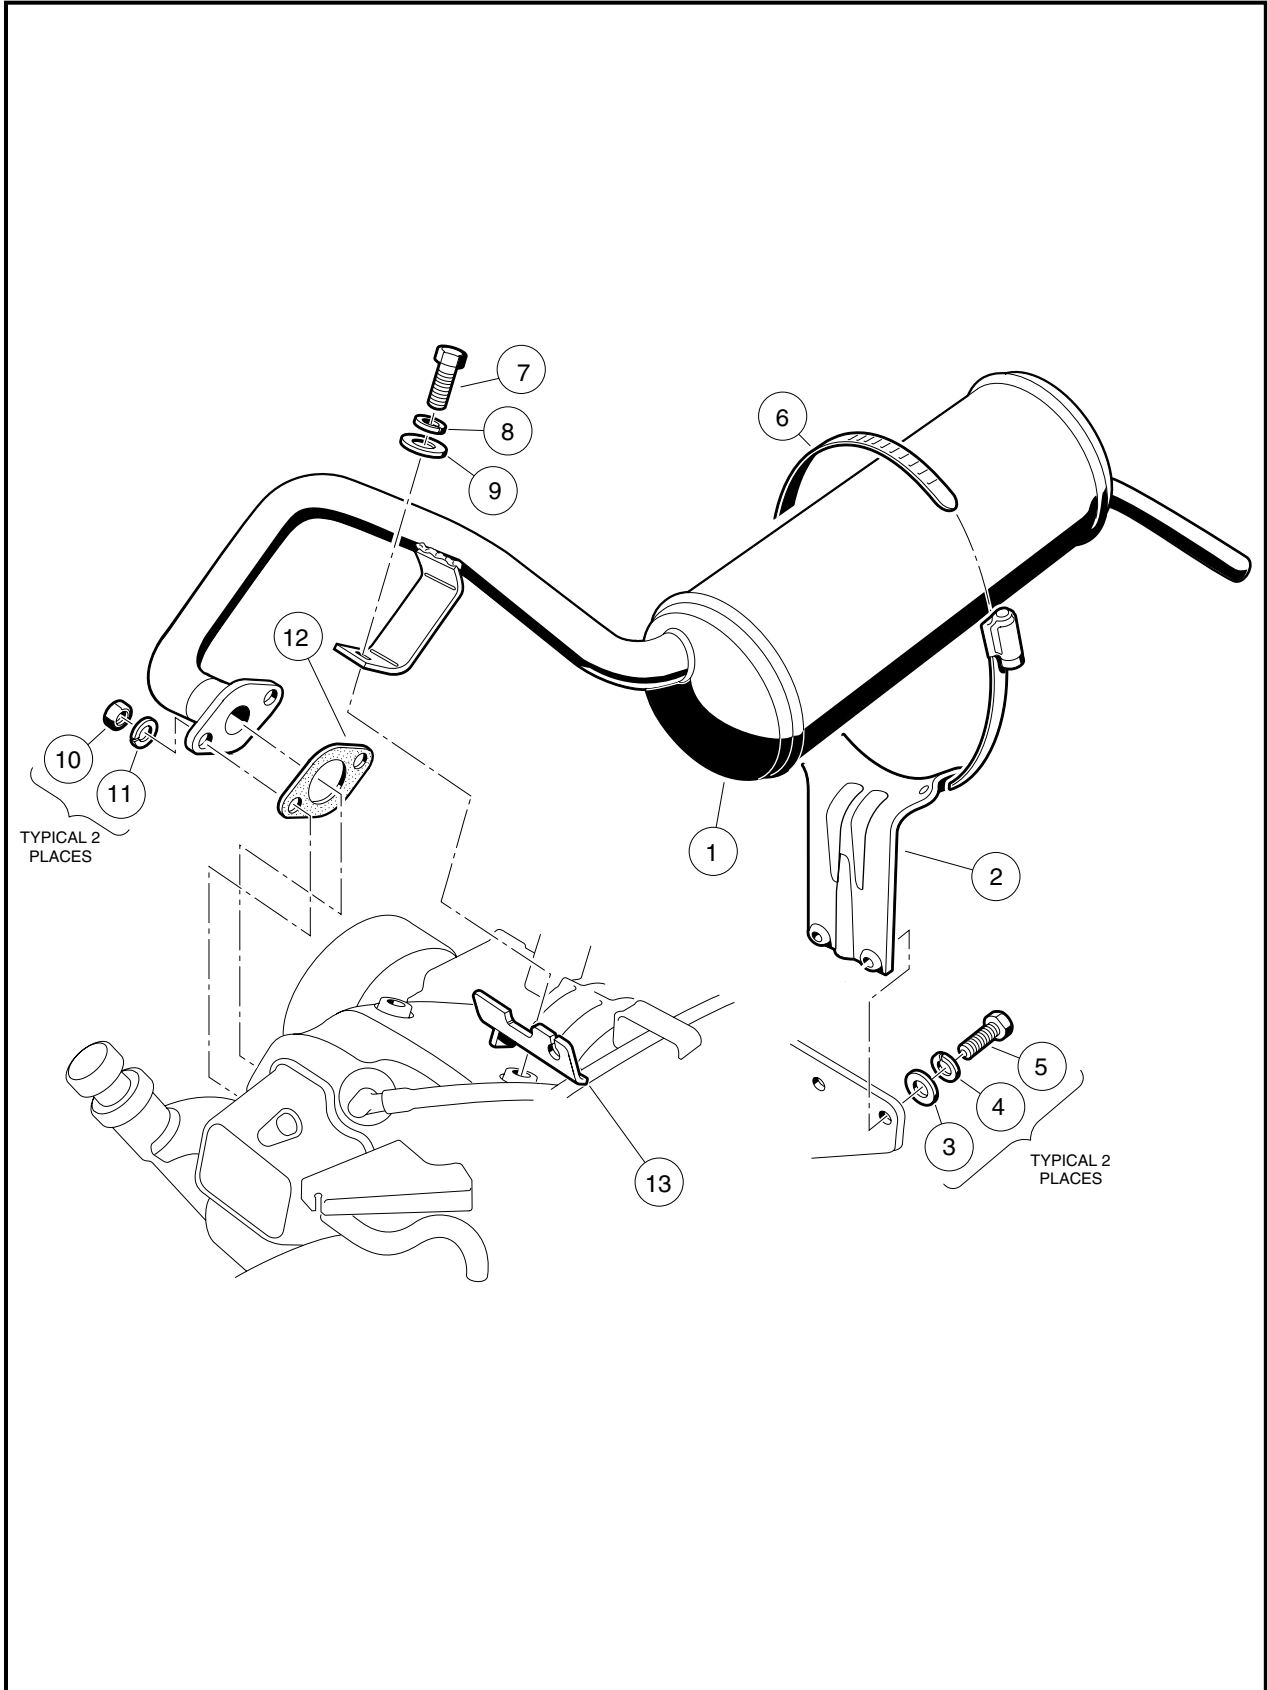
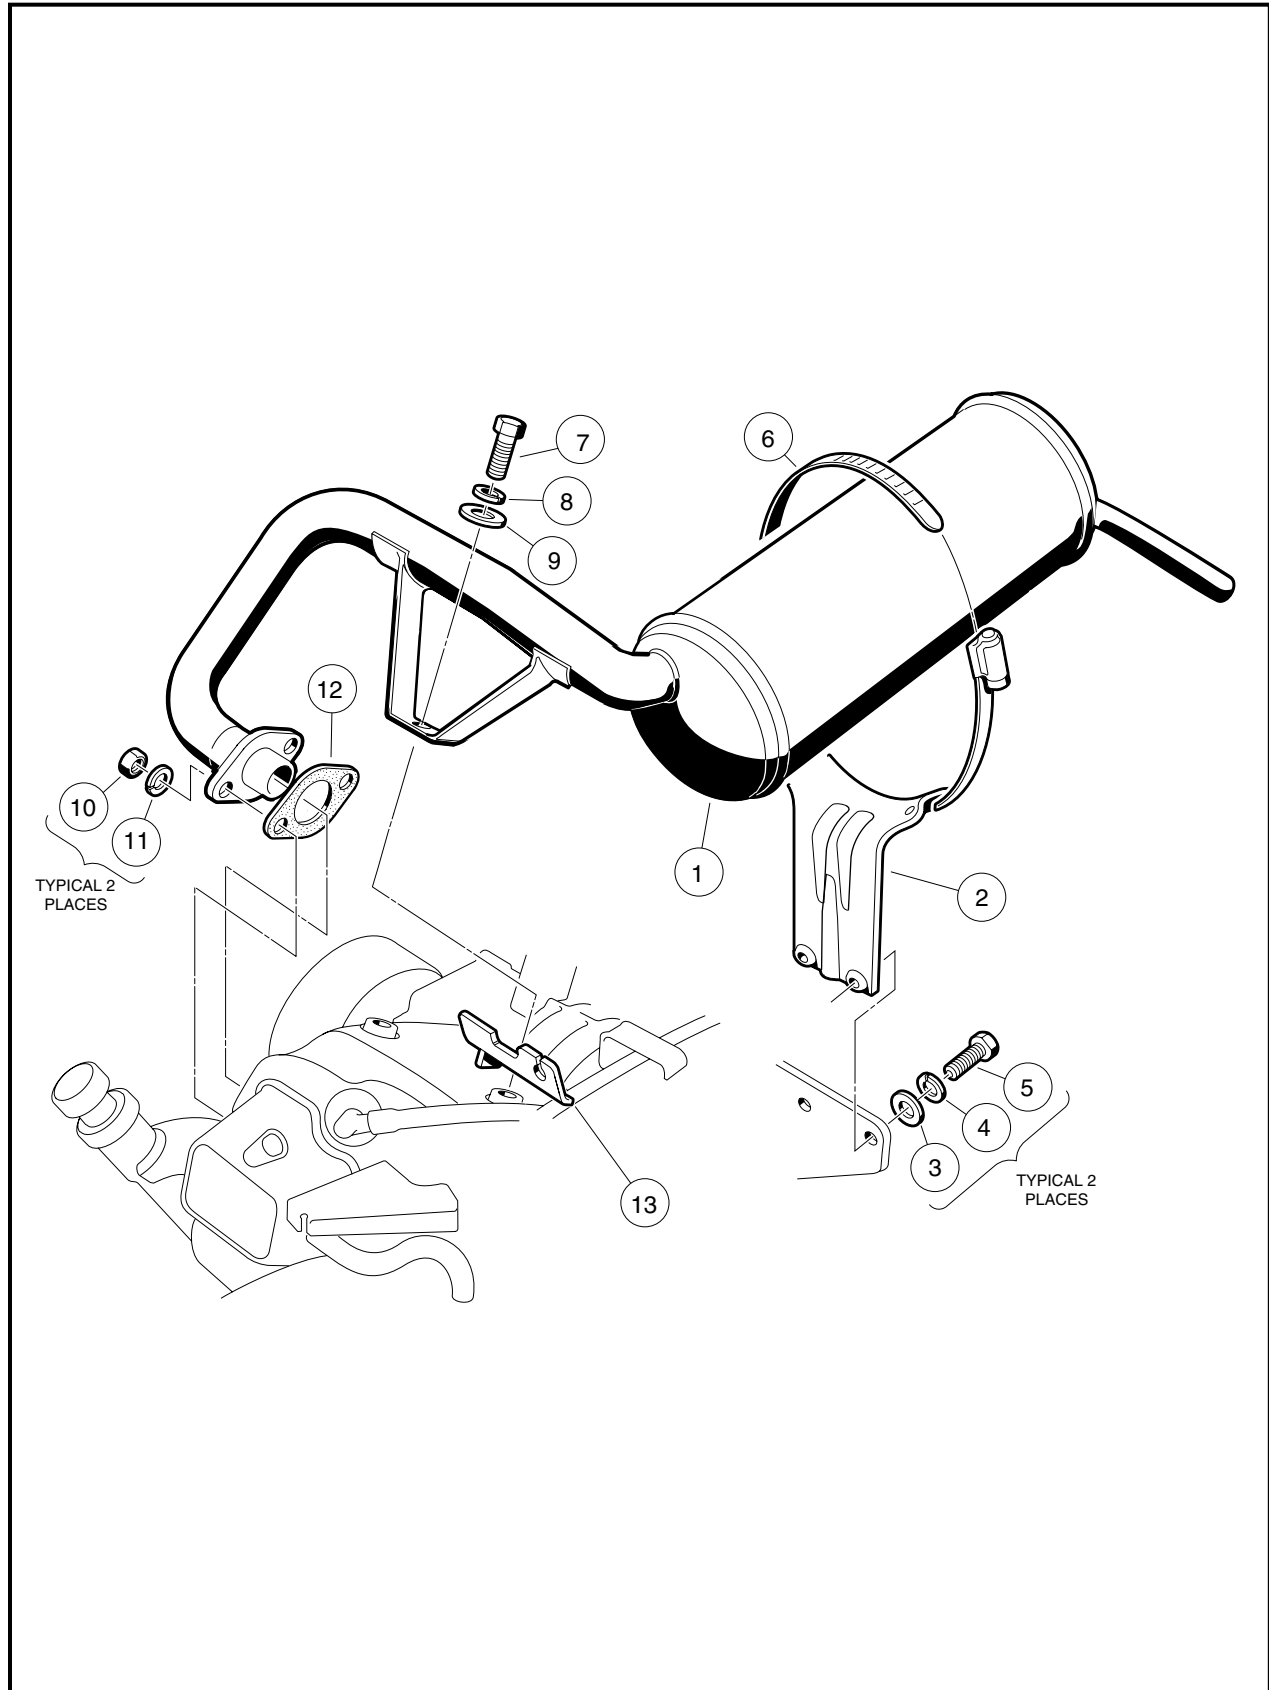

Figure 15-1 Exhaust System – FE400 Engine
Figure 15-2 Exhaust System – FE350 Engine
4. Remove the muffler clamp (6) from the muffler (1) and clamp bracket (2) (**Figure 15-1, Page 15-3 or Figure 15-2, Page 15-4**).
5. Remove the hex-head cap screw (7), lock washer (8) and flat washer (9) from mounting bracket. Retain the governor cable bracket (13).
6. Remove the hex nuts (10) and lock washers (11) from the manifold.
7. Remove the muffler (1) from the vehicle.
*Any time the muffler is removed from the vehicle, install a new muffler clamp (6) (CCI P/N 1017689) and muffler gasket (12) (**Figure 15-1, Page 15-3 or Figure 15-2, Page 15-4**).*
*The gasket (12) is different for each of the two engines: FE350 and FE400.*
1. Loosely attach muffler (1) to muffler bracket (2) with clamp (6) (**Figure 15-1, Page 15-3 or Figure 15-2, Page 15-4**).
2. Place a new gasket (12) on the cylinder block exhaust stud bolts.
3. Attach muffler manifold with lock washers (11) and hex nuts (10) and tighten finger-tight.
4. Loosely attach muffler (1) mounting bracket and governor cable bracket (13) using hex-head cap screw (7), lock washer (8) and flat washer (9).
5. Tighten manifold hex nuts (10) to 11 ft-lb (14.9 N·m).
6. Tighten hex-head cap screw (7) to 14 ft-lb (18.9 N·m).
7. Tighten muffler clamp (6) to 40 in-lb (4.5 N·m).